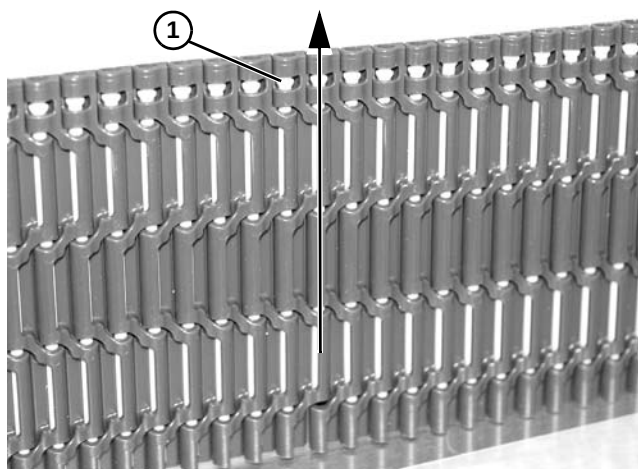

Figure 107
Note that head of pin (**Figure 107, item 1**) should be removed in direction shown.